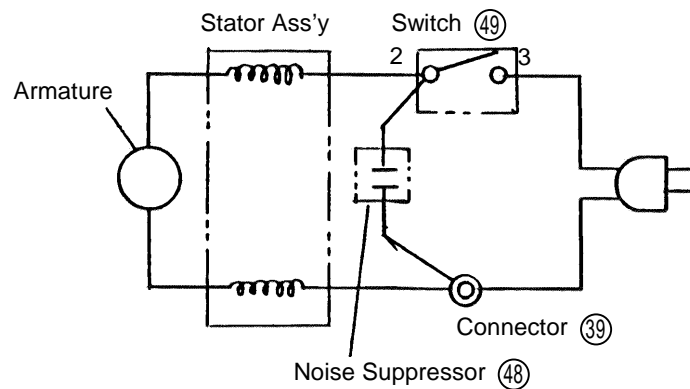

Fig. 3
(5) Wiring Diagrams (See Figs. 3 - 5):